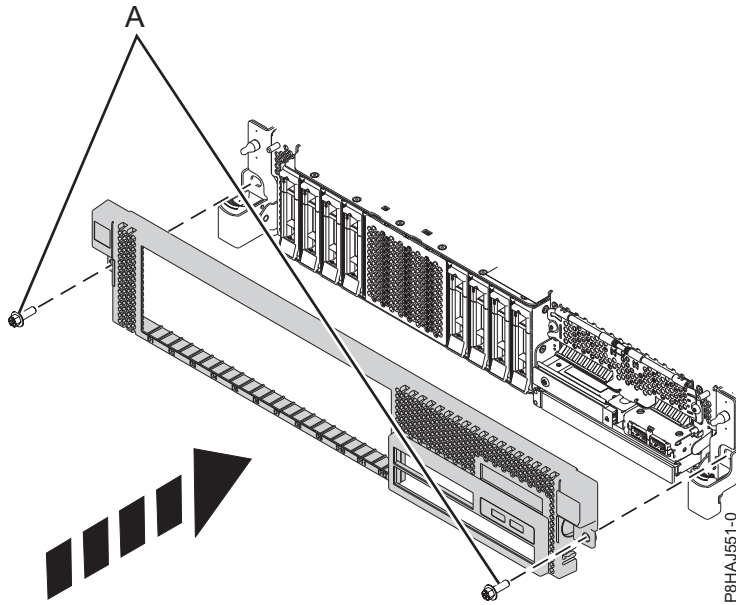

Figure 29. Installing the front cover
3. Close the release latches by pushing in the direction shown in Figure 29 on page 47. The cover snaps into place and has an indentation where you can hold onto it more easily.
4. Replace the shipping screws (A).